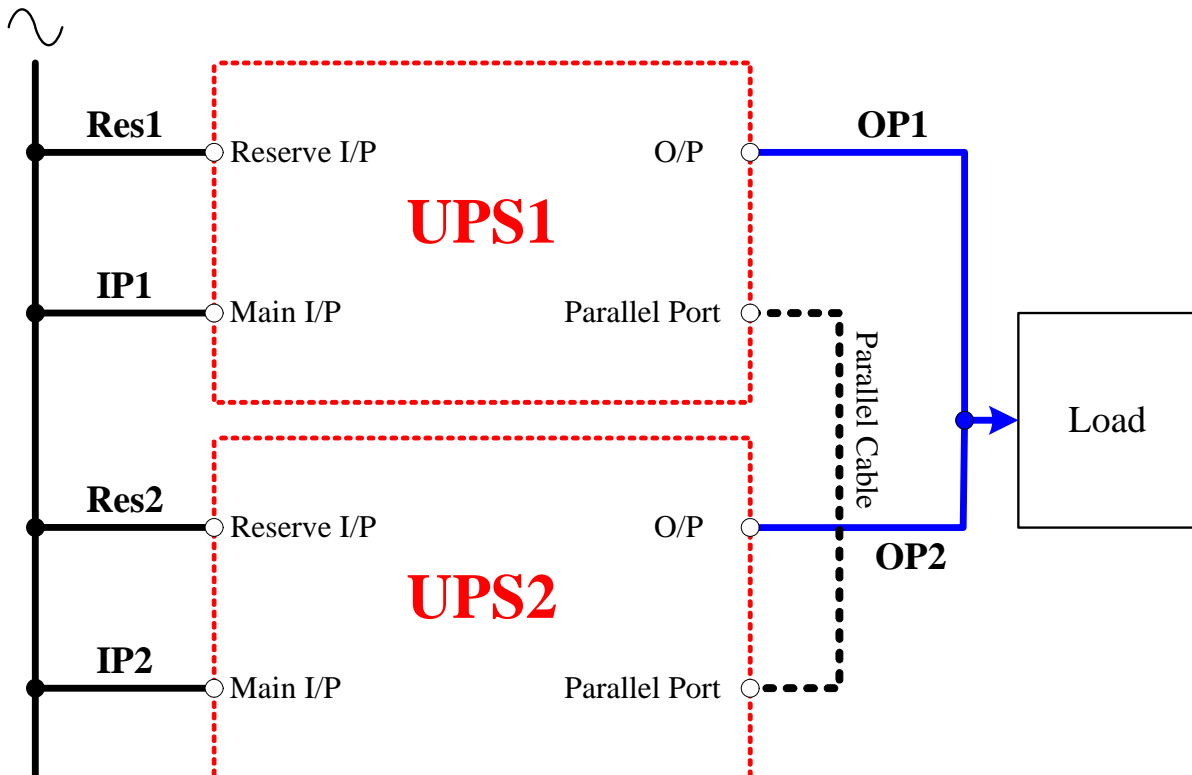

Fig. 4-4 Wiring (Parallel Redundancy, Single Input)
6. Connect the parallel communication cable between UPS1 and UPS2 (Refer Fig. 4-4).